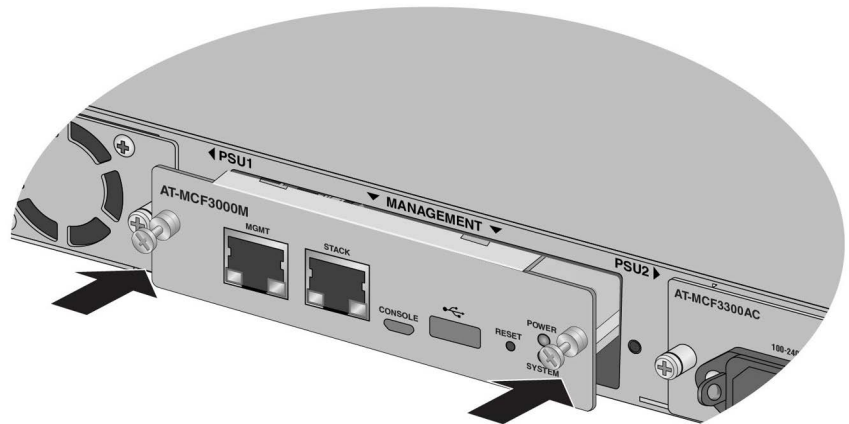

Figure 36. Seating the MCF3000M Management Card on the backplane Connector
5. Gently press on both sides of the faceplate to seat the card on the connector on the backplane inside the chassis. Refer to Figure 36.